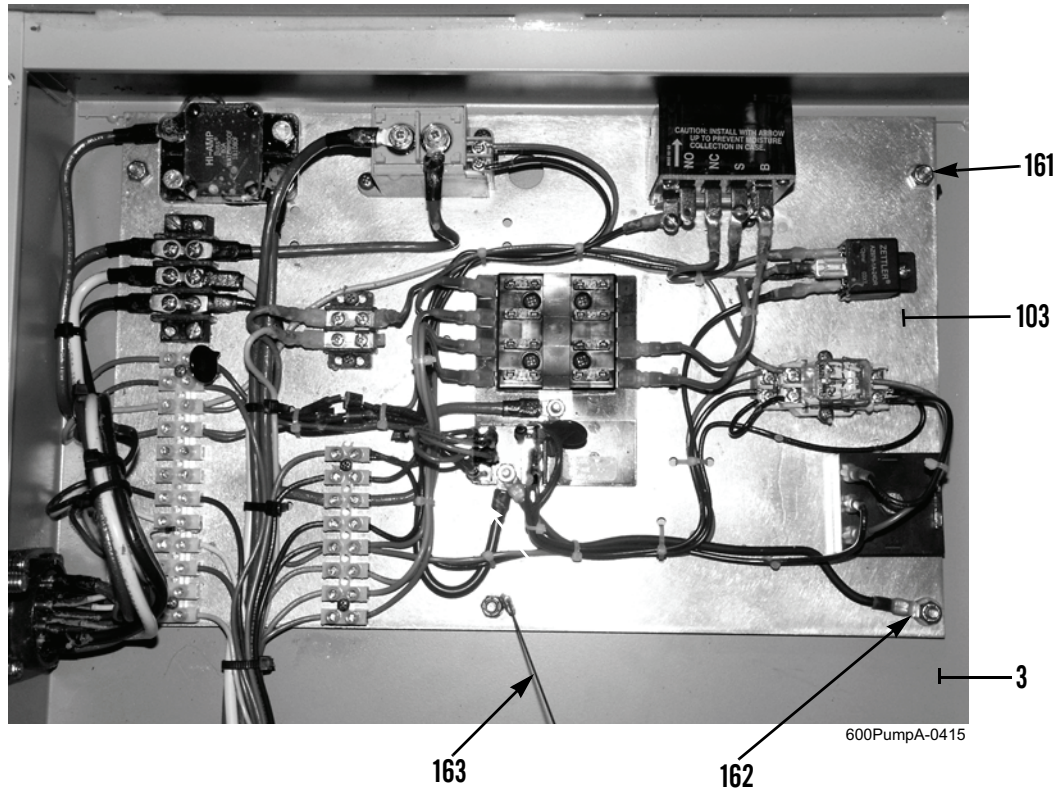

Figure 41. Inside Circuit Board Panel.
1. Remove all components mounted to inside circuit board panel (Figure 41, Item 103) referenced in this work package.
2. Remove four locknuts (Figure 41, Item 161), ground wire (Figure 41, Item 162), support cable (Figure 41, Item 163), and inside circuit board panel (Figure 41, Item 103) from control panel box (Figure 41, Item 3). Discard locknuts.
1. Install inside circuit board panel (Figure 41, Item 103) on control panel box (Figure 41, Item 3).
2. Install support cable (Figure 41, Item 163), ground wire (Figure 41, Item 162), and four new locknuts (Figure 41, Item 161) on inside circuit board panel (Figure 41, Item 103).
3. Install all components mounted to inside circuit board panel (Figure 41, Item 103) referenced in this work package.